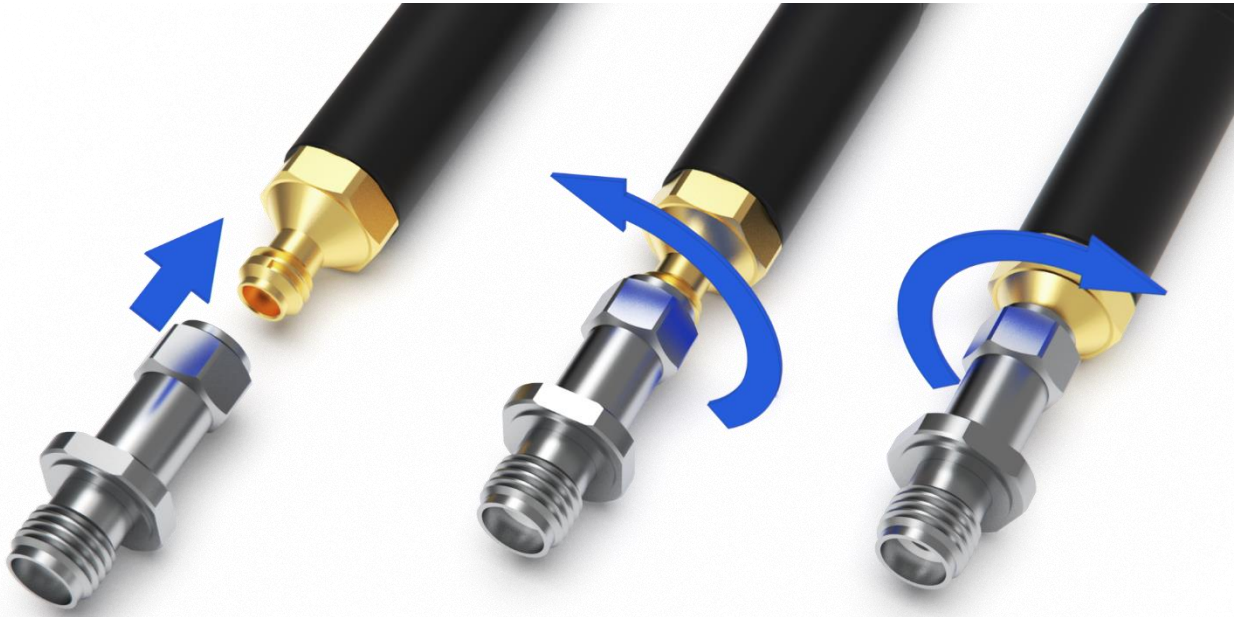

Figure 2: 1.0 mm adapter in axial alignment (left), engaging the first thread CCW (center), and gently tightening by hand CW (right).
1. Carefully, axially align the connectors such that the male connector pin will slide precisely into the contact fingers of the female connector receptacle (see Figure 2, left).
4. While being held lightly in intimate contact, rotate the connector nut CCW slightly, until the very first thread engages as shown in Figure 2, center (note: when the first thread engages, the connector nut will 'click-in-place').